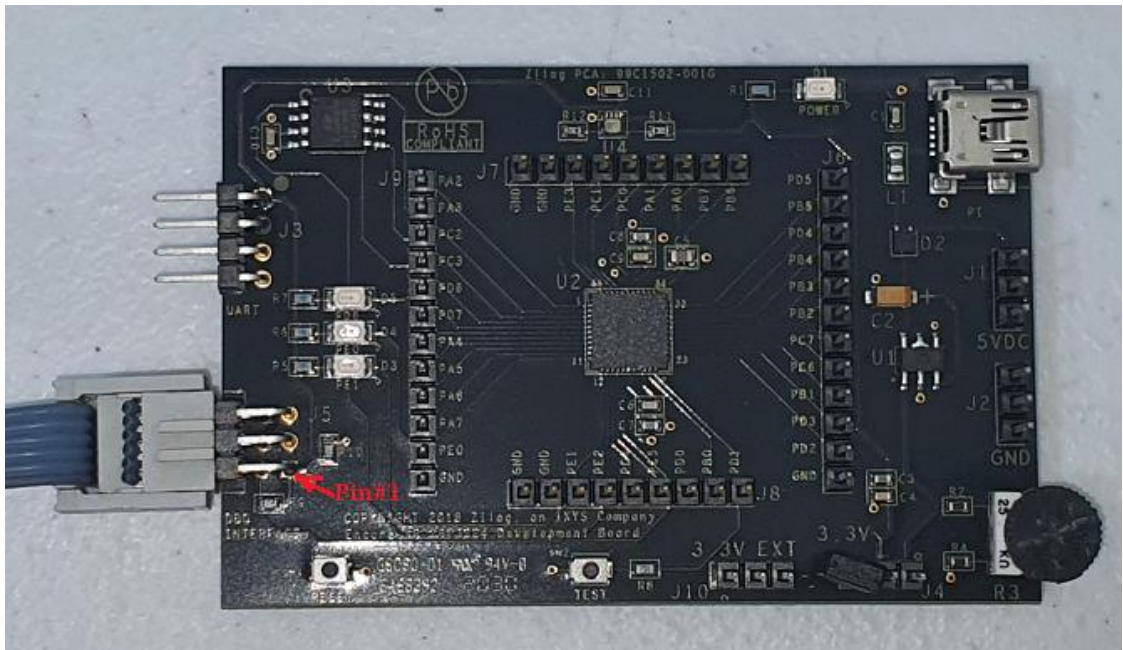

Figure 3. Debug Connector J5
2. Connect the other end of the ribbon cable to Debug Connector J5 on the Development Board. Ensure that Pin 1 on the ribbon cable (red stripe) is aligned with Pin 1 on the target connector (square pad), as highlighted in Figure 3.